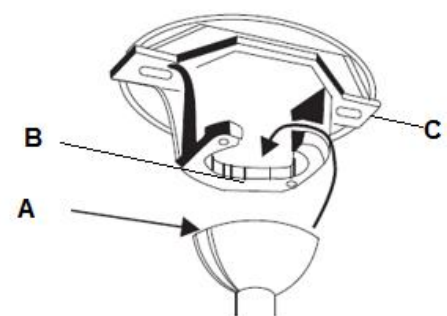

Fig. 11
Lift the fan assembly onto the mounting bracket. Ensure the key slot (A) of the hanger ball is positioned on the key pin (B) of the mounting bracket (C) to prevent the fan from rotating when in operation. **Fig.11**
1. Hang the complete fan assembly onto mounting bracket. (**Fig. 11**)